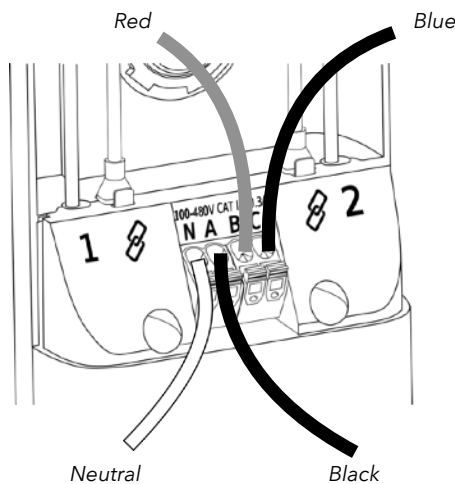

Fig 10
- Three-Phase Wye Panel. *Fig 10.*